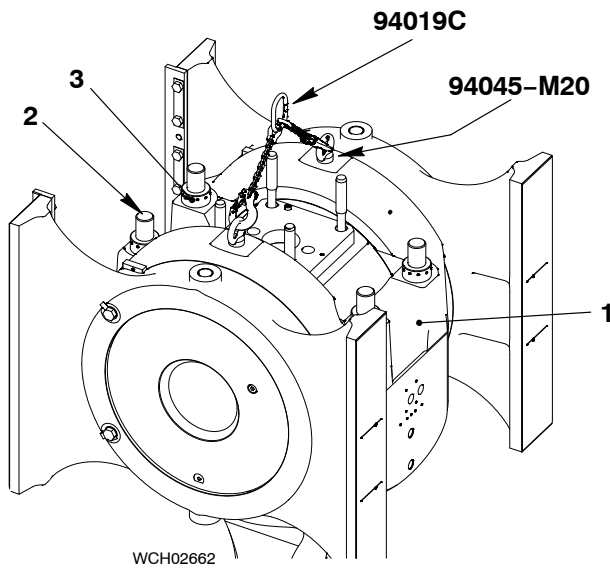

Fig. 2
- 1) Use the pre-tensioning jack (94315) to apply tension to the four elastic studs (2, Fig. 2), refer to 9403 4.
- 2) Remove the four round nuts (3) from the elastic bolts (2).
- 3) Attach the two eye bolts (94045-M20) to the bearing cover (1).